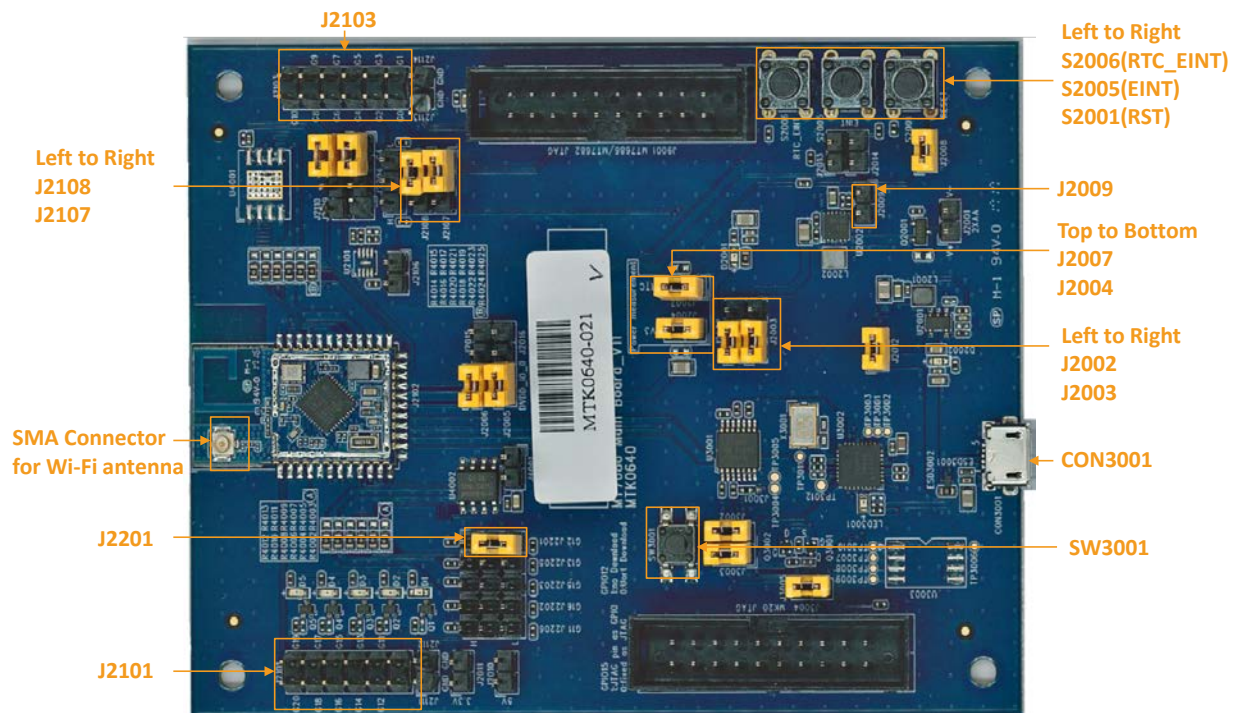

Figure 2. Jumpers and connectors on the MT7682 HDK
MT7682 HDK includes a main board (MT7686 Main Board_V11) and a MT7682 stamp module. The MT7682 stamp module is mounted on the main board. The pin description of the MT7682 HDK is shown in Figure 2.
The description of pins (Figure 2) and their functionality is provided below.
The development board should now be connected to the PC, as shown in Figure 2.
An on-board switching regulator provides voltage of 3.3V for the MT7682 HDK based on MT7682, if the power is supplied from an on-board micro-USB connector **CON3001** (Figure 2). This supply can be isolated from the switching regulator using the jumpers. Note, that the jumpers **J2002** pin 1 and 2, **J2003** pin 1 and 2, **J2004** and **J2007** are required to be set on. More details on the jumpers can be found in Table 1.
- Connect two external AA battery to battery pin header (**J2001**) to supply power to the system, as shown in Figure 5. When using two AA battery, plug the USB to micro-USB connector **CON3001** (Figure 2). Note, that the jumpers **J2002** pin 2 and 3, **J2003** pin2 and 3, **J2004**, **J2007**, and **J2009** are required to be set on. More details on the jumpers can be found in Table 2.